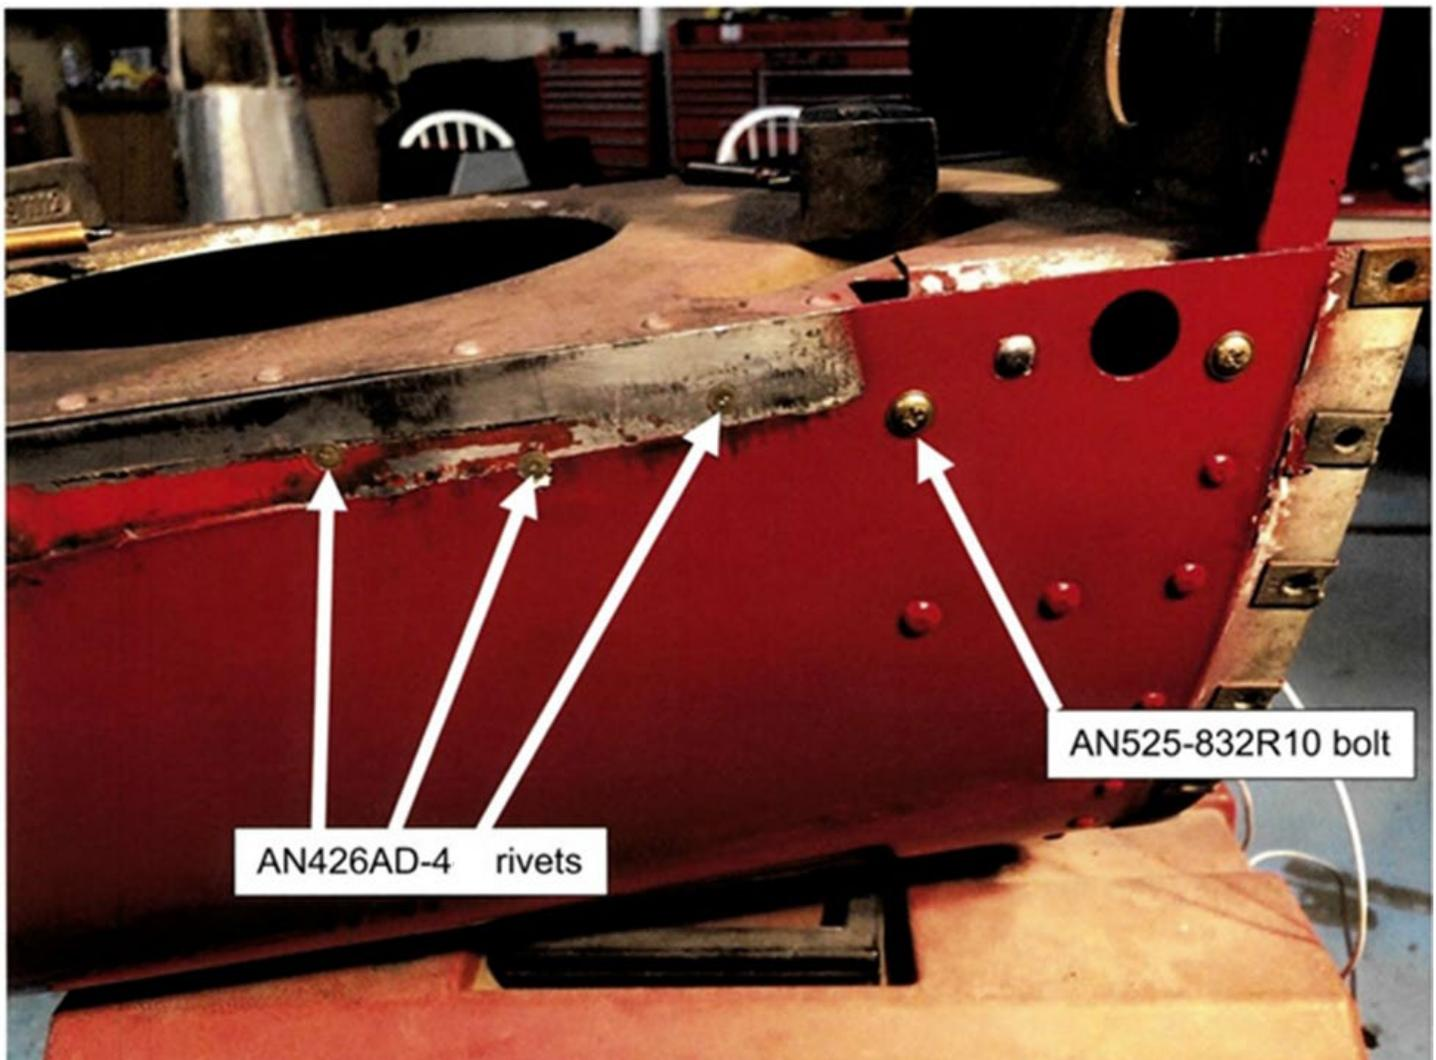

Figure 28: View after installing AN525-832R10 bolt and three MS20426AD4 flush head rivets
16. For the last three rivet holes, proceeding one at a time, remove cleco, insert an appropriately sized MS20426AD4-6, -7, or -8 flush head rivet (all supplied in kit) into the rivet hole, and secure with a pneumatic rivet gun and appropriate bucking bar. Repeat for remaining two holes. Your aircraft should now look like the image in Figure 28.